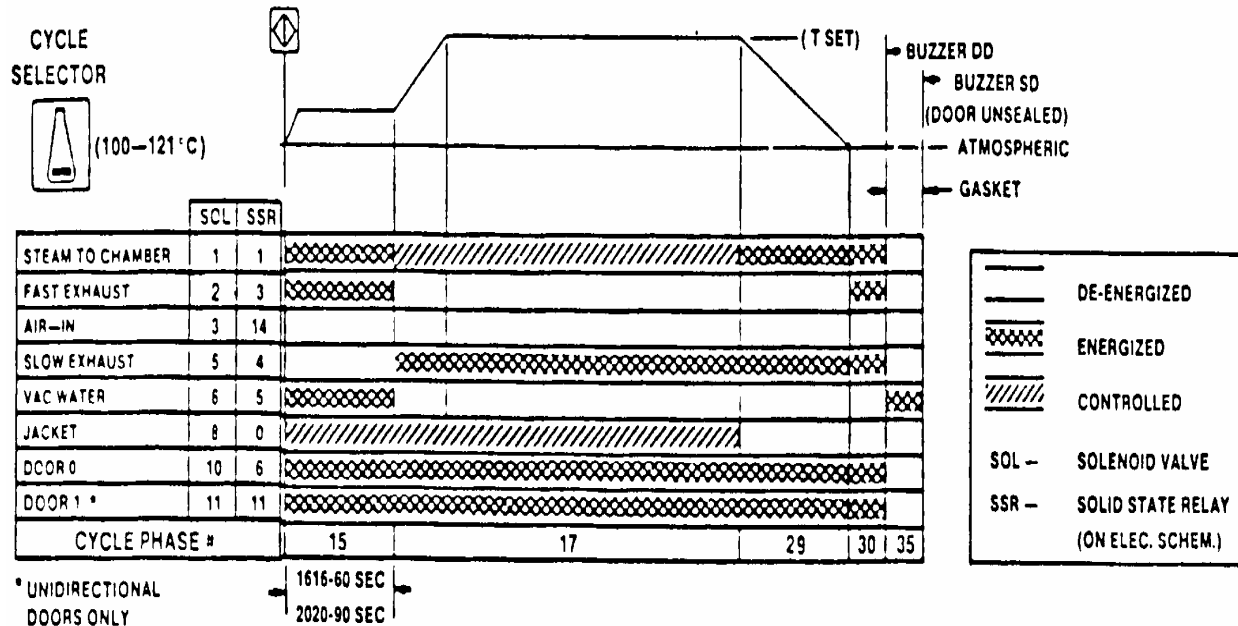

Figure 1-13. 100°-121°C liquids cycle.
(6) Phase 31: air-in. 3SOL is energized (opened). Filtered atmospheric air enters the chamber and raises the chamber pressure to atmospheric reading. When the chamber pressure reaches the atmospheric reading, 3SOL is de-energized (closed).
(7) Phase 35: gasket retract (single door units). 10SOL is de-energized (closed to steam/opened from the ejector to the gasket). 6SOL is energized (opened). The water in the ejector creates a negative pressure in the gasket groove, retracting the door gasket within 30 seconds. The complete buzzer then sounds and shuts off after the door is opened or one minute has elapsed.
(8) Phase 35: gasket retract (double door units). The complete buzzer sounds and shuts off after you either press the unseal door switch or one minute has elapsed. Pressing the desired unseal door switch re-energizes (closes to steam/opens to ejector), the gasket solenoid valves (10SOL and 11SOL). 6SOL is energized (opened). Water to the ejector creates a negative pressure on the gasket grooves, retracting the door gaskets within 30 seconds, and the doors can be opened.
c. **100°-121°C Liquids Cycle.** Use this cycle to sterilize all liquids. Refer to figure 1-13.